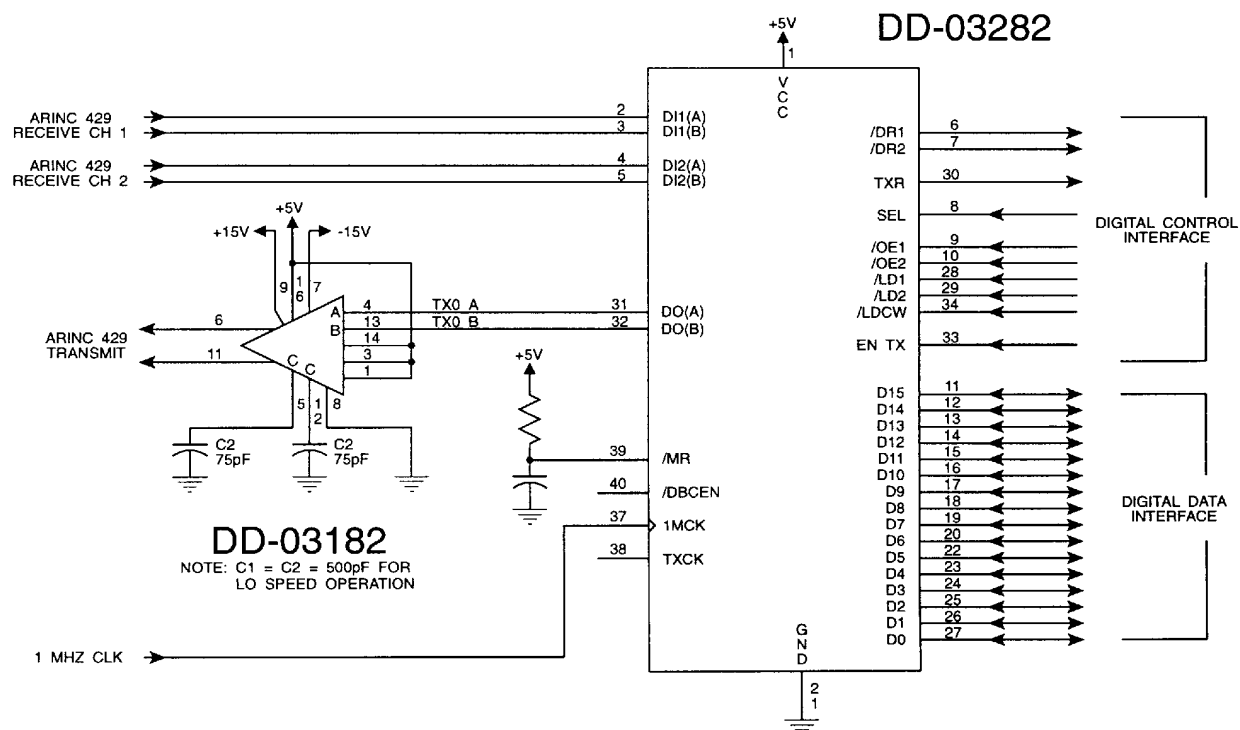

FIGURE 8. TYPICAL TRANSCEIVER/LINE DRIVER INTERCONNECT CONFIGURATION
The receiver signals (DIn (A) and DIn (B) where n=1 or 2) are differential, bipolar, return-to-zero logic signals. FIGURE 8 is an example of how to connect the DD-03282 to the DD-03182 Line Driver. The receive data is normally asynchronous to the transmitter and can also be at a different data rate than the transmitter.
The DD-03282 requires a line driver to put ARINC 429 data on the serial data bus. DDC's DD-03182 ARINC 429 line driver will support ARINC 429, 571, and 575 standards. FIGURE 8 illustrates a typical interconnection configuration between the DD-03282 Transceiver and the DD-03182 ARINC 429 Line Driver. TABLE 6 shows the DD-03182 Line Driver Specifications. Refer to the DD-03182 data sheet for further information about the ARINC 429 Line Driver.